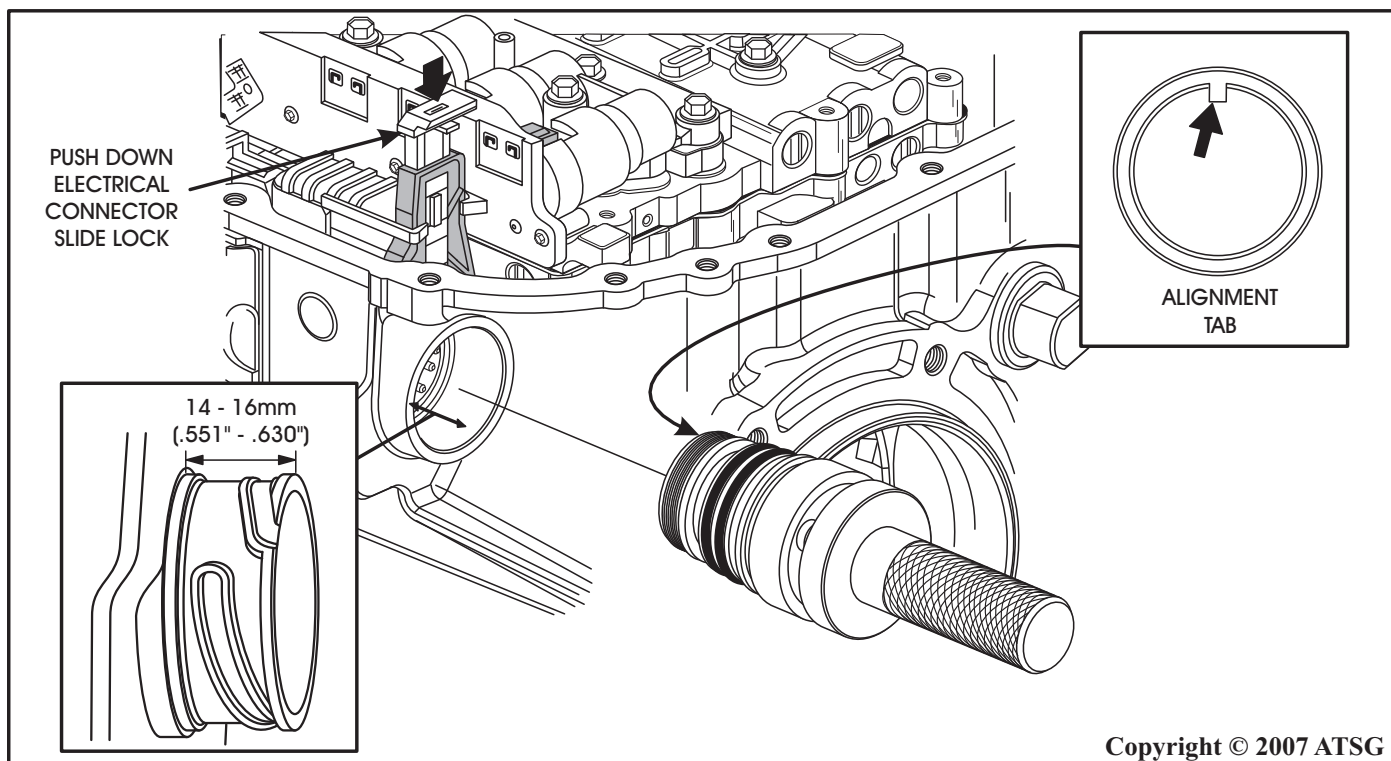

Figure 175
45. Push the sleeve straight into the case bore and TCM connector. **Do Not**, rotate the sleeve at any time (See Figure 175).
46. When the sleeve is properly installed, the distance from the case surface to the end of the sleeve should be 14-16mm (.551" - .630"), as shown in Figure 175.
47. Ensure the sleeve is fully seated and push down on the electrical connector slide lock, as shown in Figure 175, to lock the connector sleeve in place.